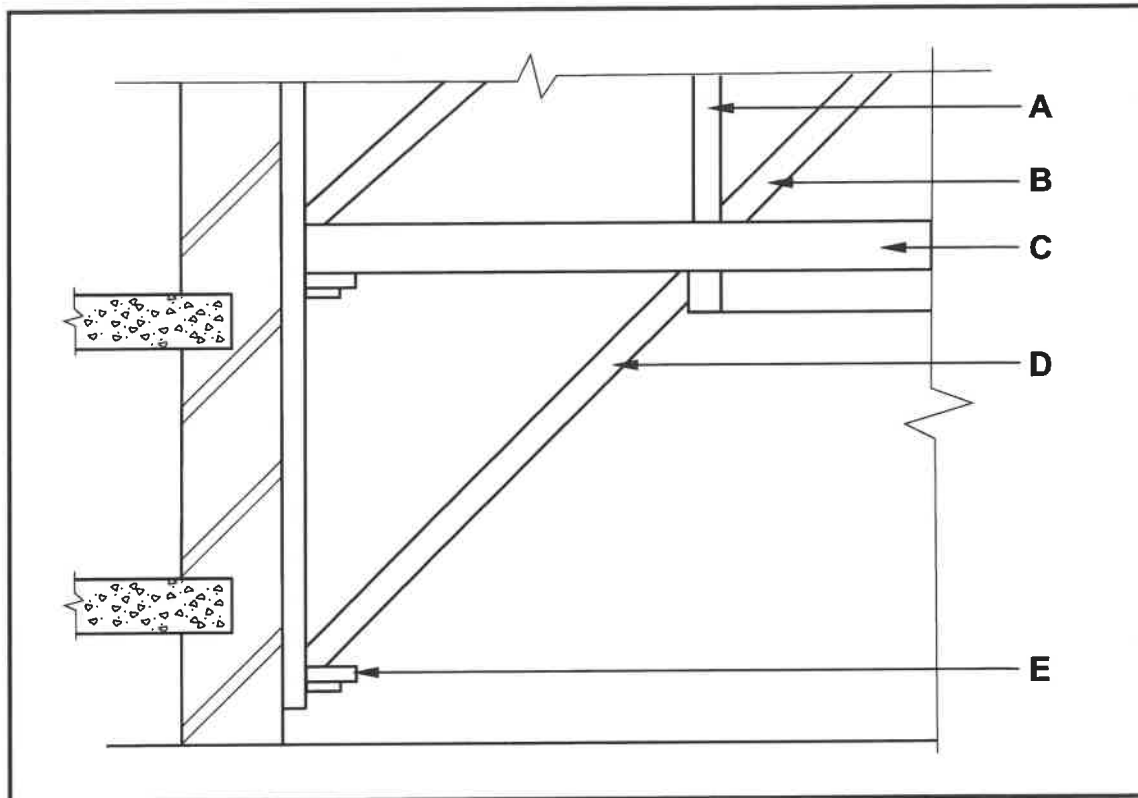

FIGURE 5.3
5.3 FIGURE 5.3 below shows a sectional view through a part of a double-flying shore. Label parts A to E.